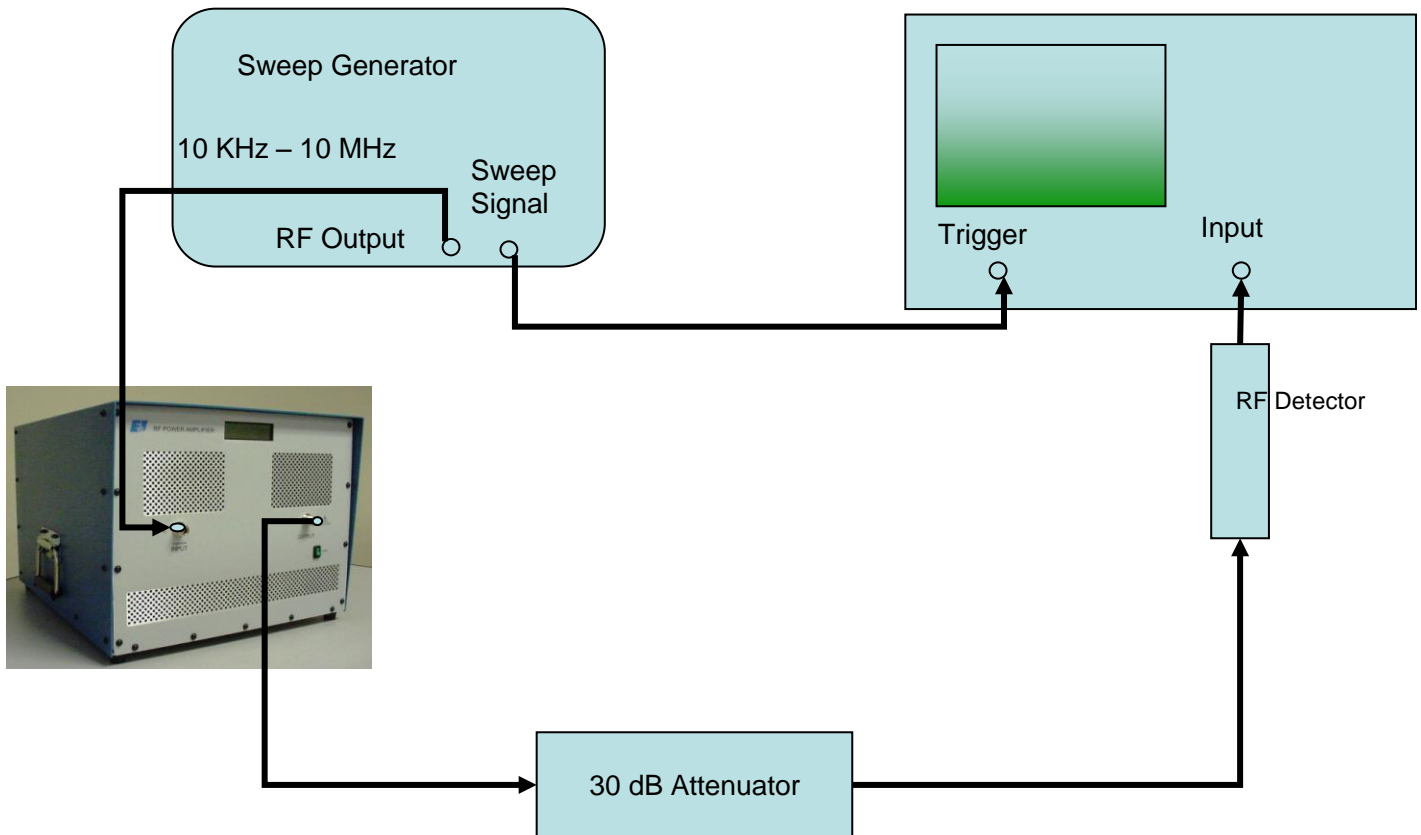

Figure 4-1. Gain Measurement
2. Connect the equipment as shown in Figure 4-1, then proceed as follows:
- g) Reconnect the 2400L into the test set-up of Figure 4-1.